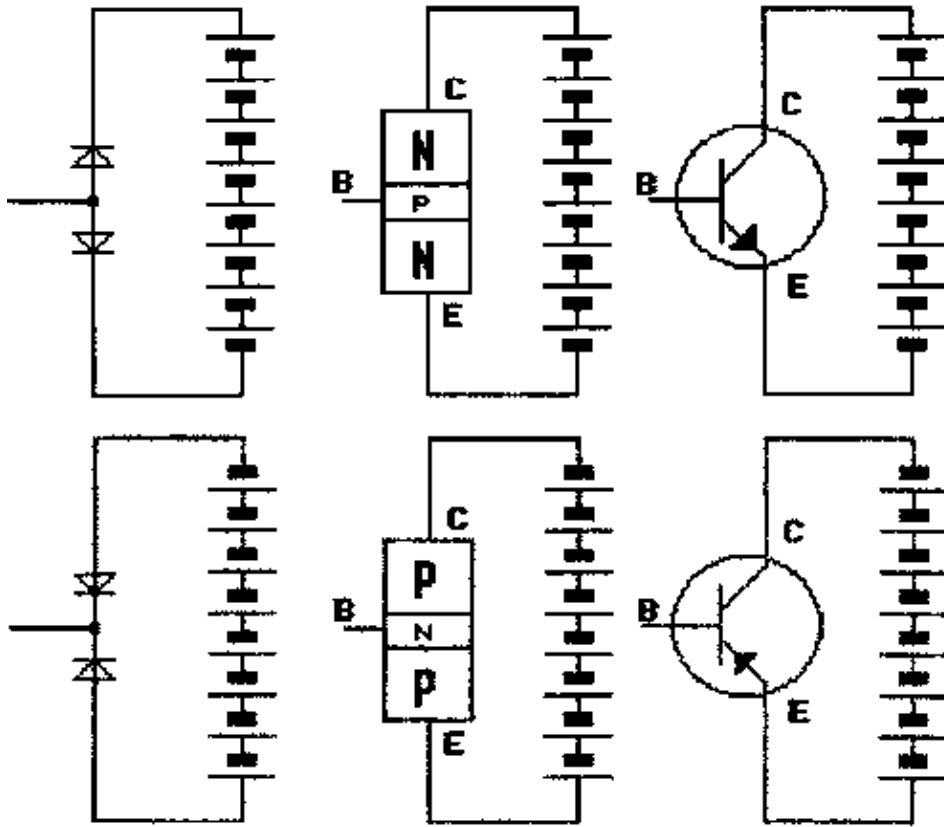

fig. 123
1. If a transistor is connected to a voltage-source as shown in fig. 123 it will not conduct any current, because one of the PN-junctions is always biased in reverse direction.